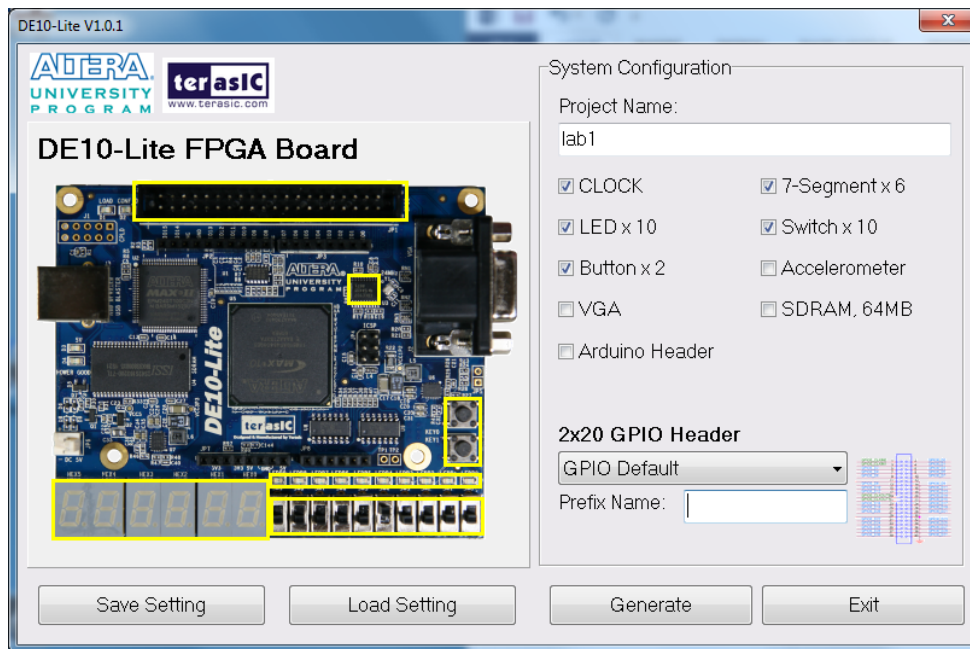

Figure 4. Generate Pin Assignments Using System Builder Program
- Run the System Builder program. Specify the project name, such as lab1, and the I/O devices that you will use in your project. An example screenshot is shown in Figure 4. There is no problem if you select I/O devices that are not used in your schematic. Those pin assignments will just be ignored. For example, in Figure 4, the CLOCK, LEDx10, Buttonx2, 7-Segmentx6 and Switchx10 are all selected, even though they might not all be needed in this design.